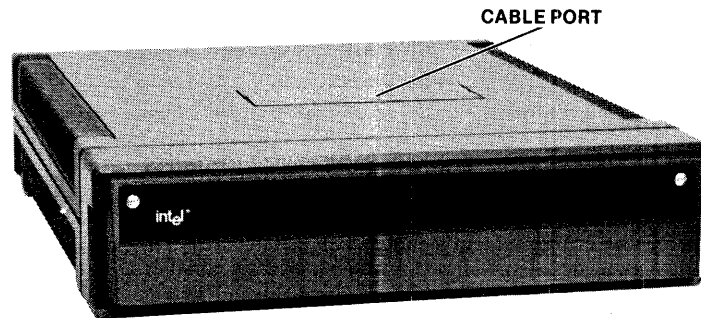

Fig. 4-20 Cable Port in Expansion Chassis
4. Remove the cable port cover on the top of the expansion chassis as shown in Figure 4-20.